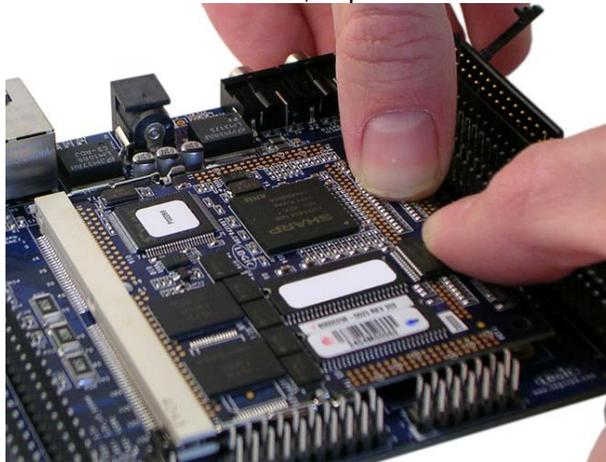

Figure 3 – Apply Equal Pressure Directly above Expansion Connectors
2. Using equal, downward pressure directly over the expansion connectors, press down so the expansion connectors mate correctly with the baseboard (see Figure 3). Do not apply pressure to the corners of the board, or press on one side first and then the other.